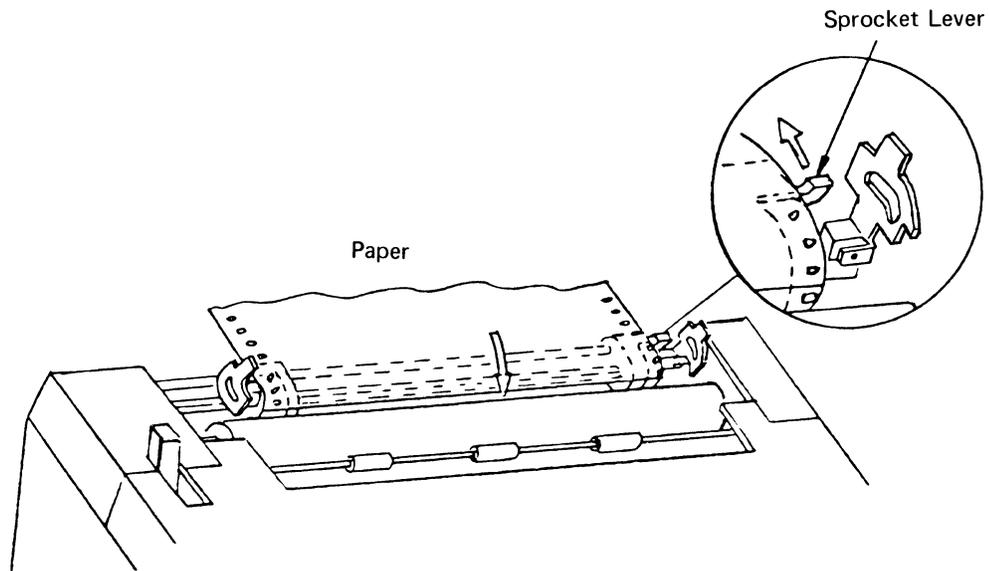

Fig. 8 Paper Insertion (3)
- (5) Take the end of the paper and fit the paper sprocket holes onto the right and left sprocket pins. If the paper width necessitates adjusting the distance between the sprocket tractor, push back the right or left sprocket lever (allowing the sprocket tractor(s) to move freely) and move the sprocket tractor(s) right or left as needed to match paper width. Then pull the sprocket lever(s) forward to lock the position of the sprocket tractor(s). (Refer to Fig. 8.)